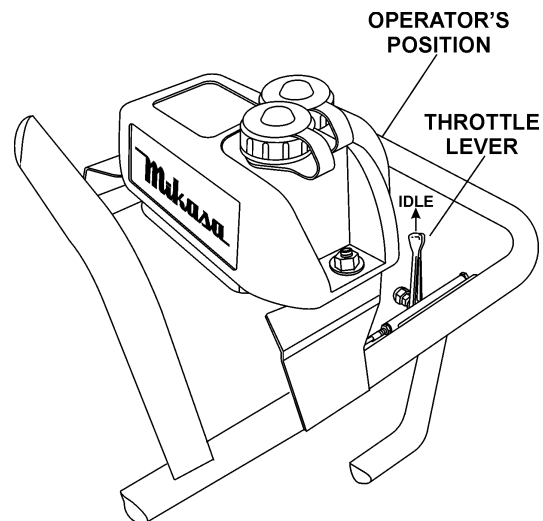

Figure 8. Throttle Lever (Idle)
3. Move the **throttle lever** to the **"IDLE"** position (Figure 8).